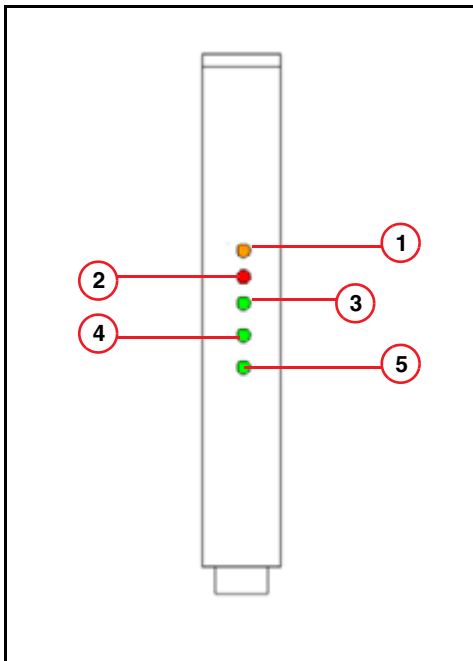

Fig. 31: Parallel back projector board D4/D5
- The yellow LED **RDY** (1/Fig. 31 / p. 58) indicates that the driver is loaded and the board is ready.
- The red LED **ERR** (2/Fig. 31 / p. 58) indicates an error. In this case, start a back projector test with the Service Software.
- The green LEDs **DMA IN** (3/Fig. 31 / p. 58) and **DMA OUT** (4/Fig. 31 / p. 58) indicate when a DMA is being performed.
- The green LED **TACT** (5/Fig. 31 / p. 58) indicates that a reset is active.